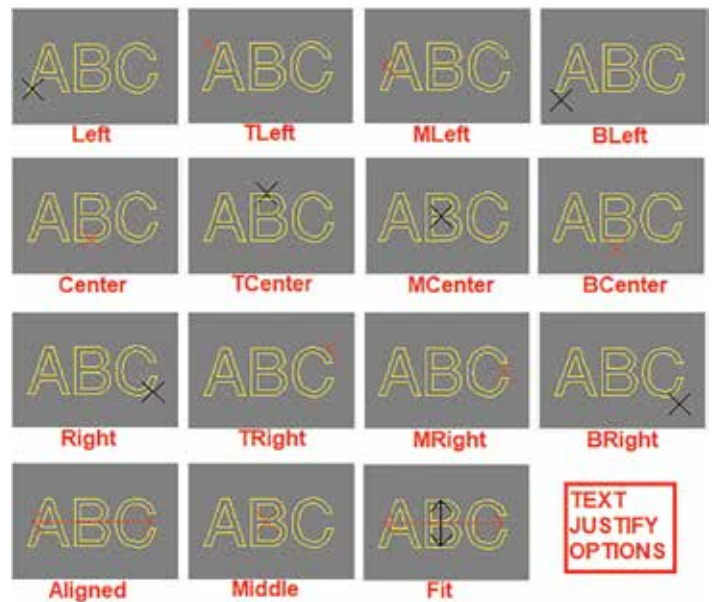

Figure 9
- INSertion – this is also known as the TEXT'S Justification location (see Figure 9)